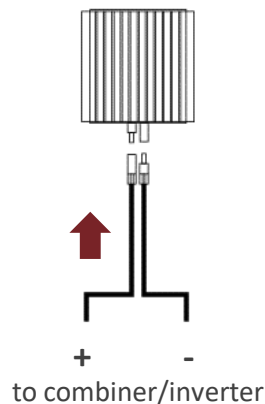

Figure 9: Connecting the output connectors
6. Connect the appropriate cables to the output (OUT) of the String Optimizer. Pay special attention to the voltage polarity and the connector gender of these cables as illustrated in Figure 9. See: